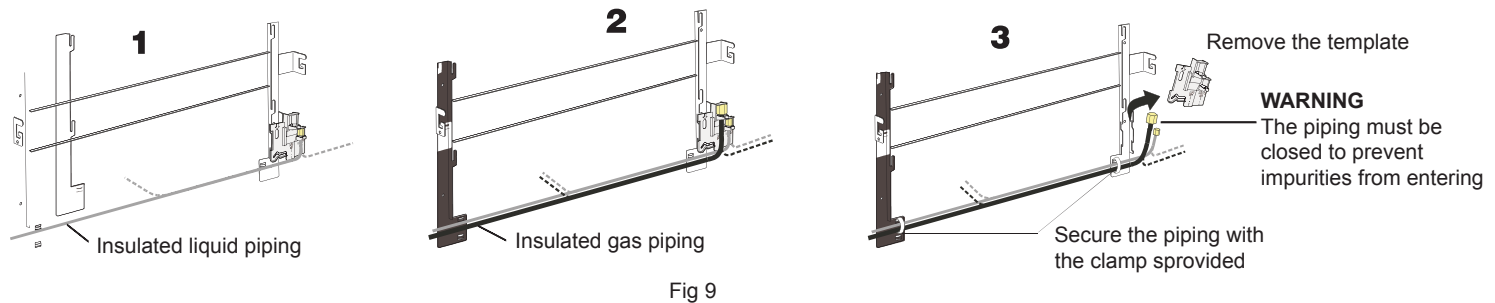

Fig 9
- ❑ Secure the tubing with the clamps provided. (Fig 9)